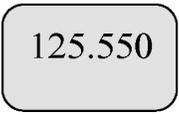

Figure 1
Display will indicate the current selected frequency. (See Figure 1)
3. Rotate the tuning dial to set the desired frequency. (See Figure 1)